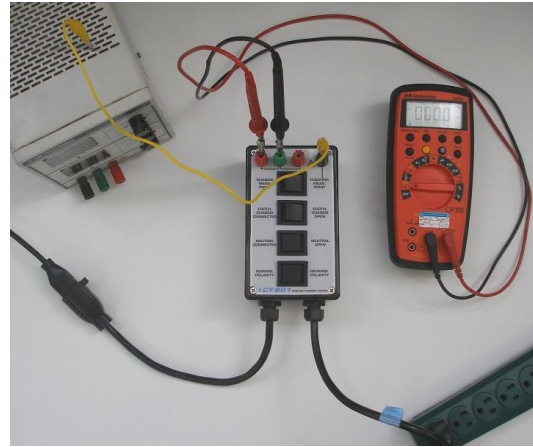

Figure 7 Chassis Leakage Current - Fixed Equipment
11. See Figure 7 and Table 7 for a Test Setup synopsis. This section is based on NFPA 99 Fig. 8.4.1.3.5.5, see below.